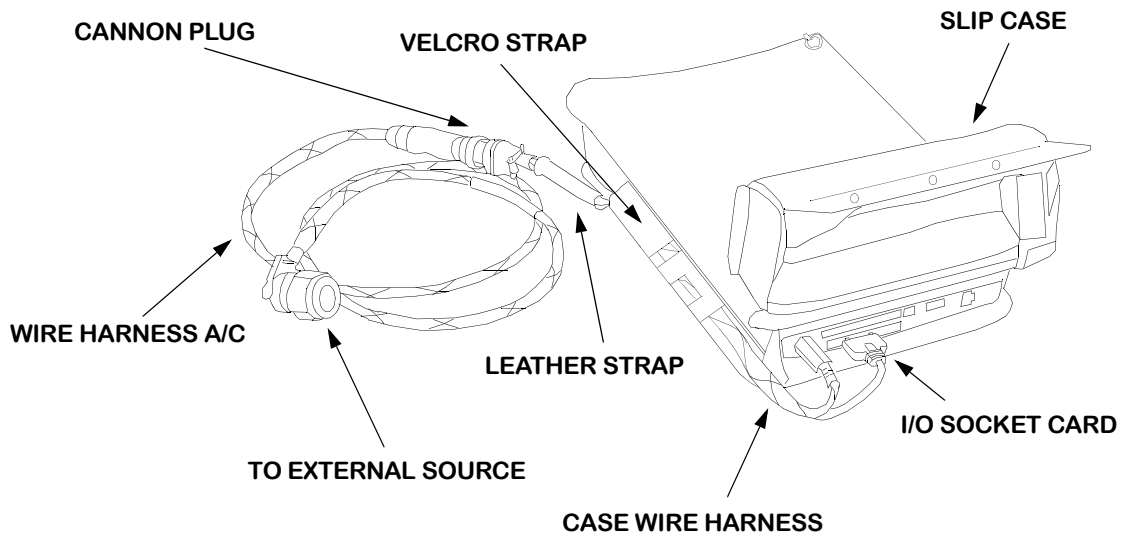

Figure 21 Pen Tablet Within Slip Case Version 2
- g. Connect power cable to DC input connector, refer to **Figure 21**.